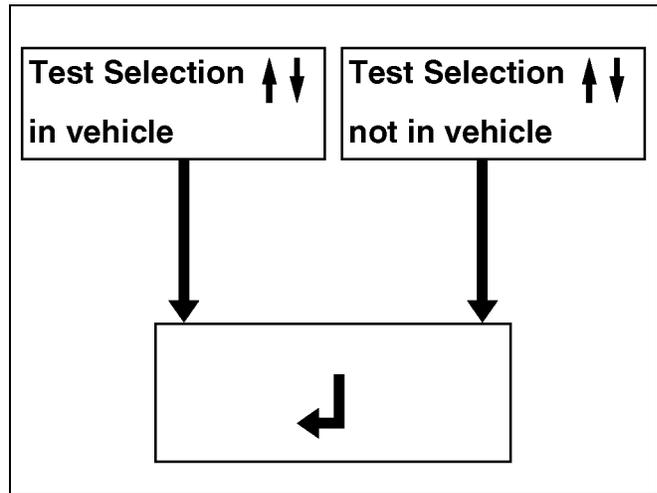

Figure 3
2. Follow the LCD menu selection using the arrow keys (Figure 3).
**Note:** Select “in vehicle” if the vehicle battery leads are still connected to the battery. Select “not in vehicle” if the battery is removed from the vehicle (Figure 3).